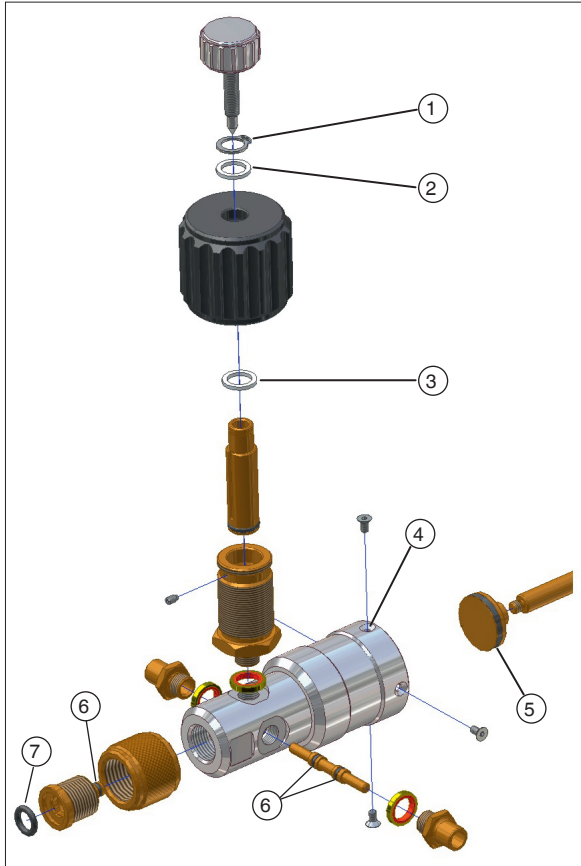

Fig. 1 - Fitting the sealing rings, sealing discs and O-rings
- ▶ Pay attention to the correct order of the components, see Fig. 1 "Fitting the sealing rings, sealing discs and O-rings"!